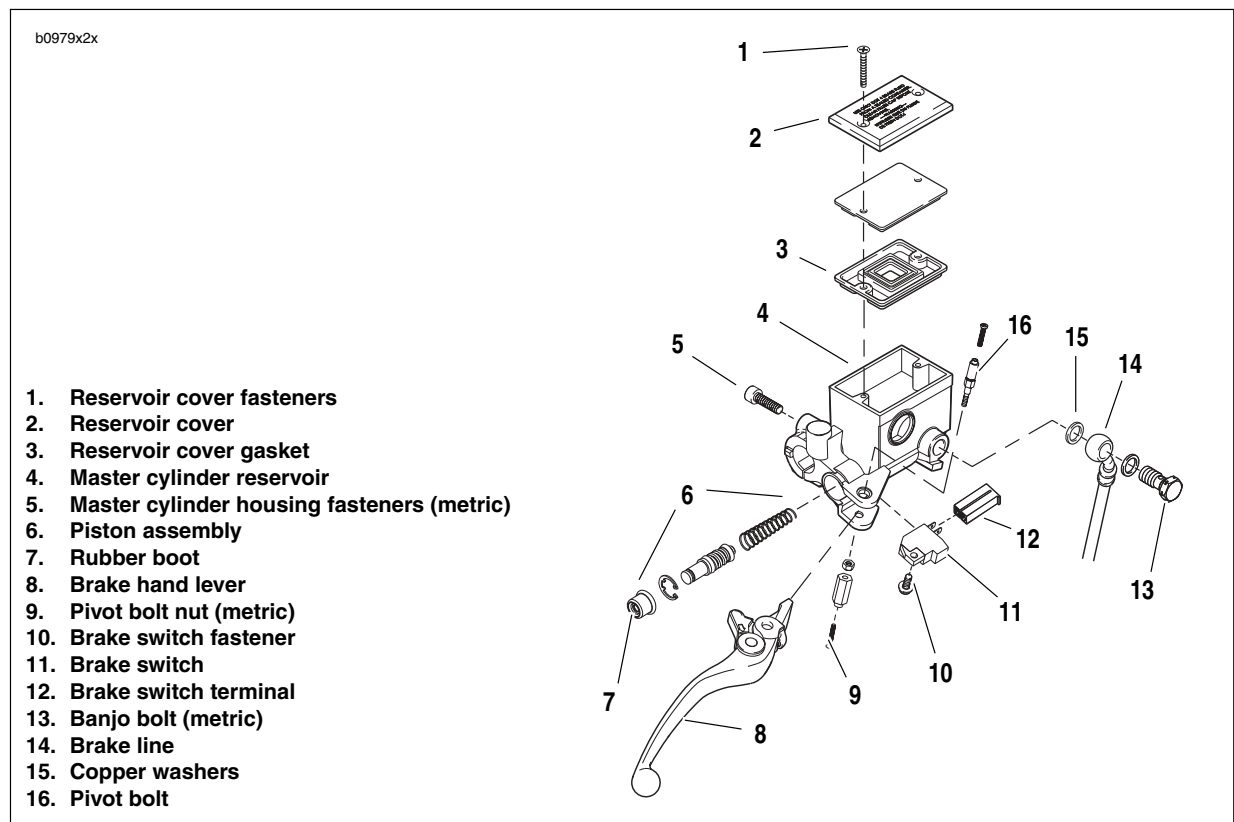

Figure 2-38. Front Brake Hand Lever Assembly
3. See Figure 2-38. Remove the banjo bolt (13) (metric) and two copper washers (15) to disconnect brake line (14) from master cylinder (4). Discard copper washers.
4. Unplug terminal (12) to detach brake lamp switch (11).
1. See Figure 2-38. Remove pivot bolt nut (9) (metric) and pivot bolt (16) from hand lever pivot.
2. Detach front brake hand lever assembly (8) from hand lever pivot.
3. Detach front brake lamp switch (11) by removing the switch fastener (10).
5. See Figure 2-38. Remove piston assembly (6) from front master cylinder reservoir (4) and discard.
4. See Figure 2-38. Insert piston assembly (6), spring first, into master cylinder reservoir (4).
1. See Figure 2-38. Lubricate pivot bolt (16) with LOCTITE ANTI-SEIZE.
2. Align hole in hand lever (8) with hole in hand lever pivot and install pivot bolt (16) through top of hand lever pivot and tighten nut to 39-48 **in-lbs** (4.4-5.4 Nm).
1. See Figure 2-38. Install front brake lamp switch (11).
- a. Install brake lamp switch (11) with switch fastener (10) and tighten to 7-10 **in-lbs** (0.8-1.0 Nm).
- b. Connect brake switch terminal (12) to brake lamp switch (11).
3. See Figure 2-38. Connect brake line to master cylinder using two **new** copper washers (15) and banjo bolt (13) (metric) and tighten to 16-20 ft-lbs (22-27 Nm).
- See Figure 2-38. Attach master cylinder cover (2) and cover gasket (3). Tighten two cover fasteners (1) to 9-13 in-lbs (1.0-1.5 Nm).
1. See Figure 2-38. Connect brake line (14) to master cylinder (4) using two **new** copper washers (15) and a banjo bolt (13) (metric). Loosely install bolt into master cylinder.